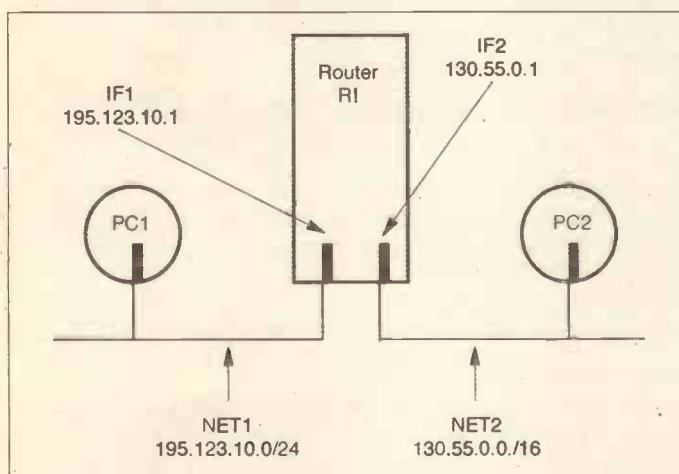

Fig. 1: A router with two interfaces connected to two networks.
A router has two or more network interface cards, usually known simply as interfaces, see Fig. 1. Each interface (IF) is connected to a network that has a different network address. Routing information, in the form of network addresses, their subnet masks and the route to the network, is held in a routing table. In Fig. 1 interface IF1 is connected to network 195.123.10.0/24 (subnet mask 255.255.255.0) while interface IF2 is connected to network 130.55.0.1 (subnet mask 255.255.0.0). By default, the router will know of the existence of the two networks and will enter them in its routing table, as shown in Table 1.
Table 1: Routeing table for R1, Fig. 1